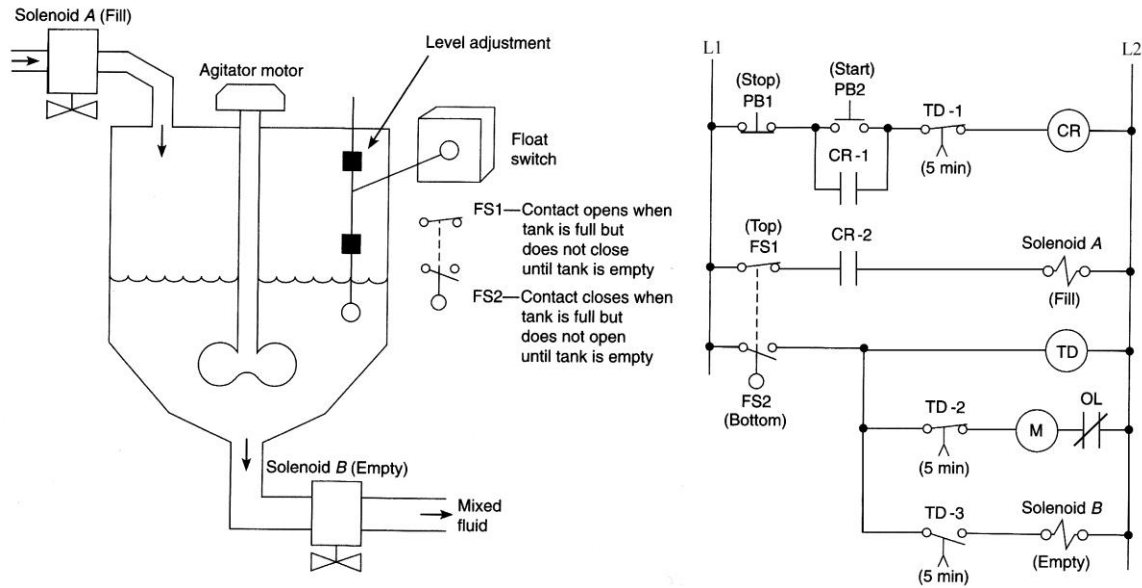

Figure 7-33 Hardwired automatic mixing process for assignment 17.
17) Prepare an I/O connection diagram and ladder logic program for the hardwired automatic mixing process circuit shown in Figure 7-33. Enter the program into the PLC, and prove its operation. The operation of the process can be summarized as follows: